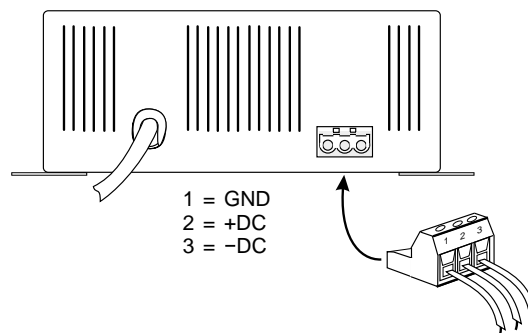

Figure 1 Model 723 cabinet showing 3-position plug-in terminal strip.
**3.6 DC OUTPUT CONNECTIONS** Before connecting to the DC output ensure that the power cord is not plugged into an outlet. Be certain that the DC output LED is not lit. The DC-output connections are made via a 3-position plug-in terminal strip. The terminal strip is located on the bottom face of the unit, adjacent to the where the power cord exits the chassis, as illustrated in Figure 1. Remove the terminal strip by firmly grasping it with your fingers and pulling it straight away from the cabinet. Do not wire the terminal strip while it is attached to the power supply. Once it is removed, a small straight-blade screwdriver is required to loosen the clamp screws. The interconnecting wires are slipped into the openings of the terminal strip, and then the screws are tightened to secure the wires into place. A minimum wire gauge of #20 AWG or larger is recommended. (Remember that the smaller the AWG number, the larger its current rating.) Although not required, using a wire that is "heavier" than is technically necessary will help to minimize the resistance, and the resultant voltage drop, between a power source and the equipment being powered. After the wires are secured into the terminal strip, plug it back into the socket on the Model 723. Ensure that the terminal strip is firmly mated with the socket.